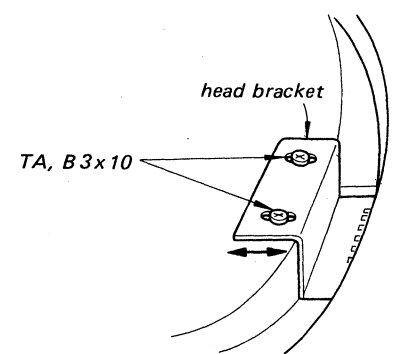
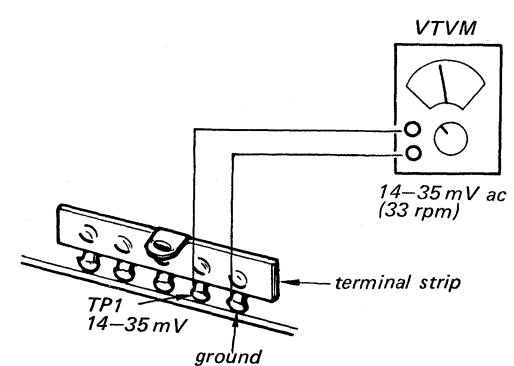

Fig. 3-2
Fig. 3-3
- 1. Adjust the position of the head bracket by loosening B 3x10 screws (See Fig. 3-2) so that the VTVM reads 14-35 mV (33 rpm) as shown in Fig. 3-3.